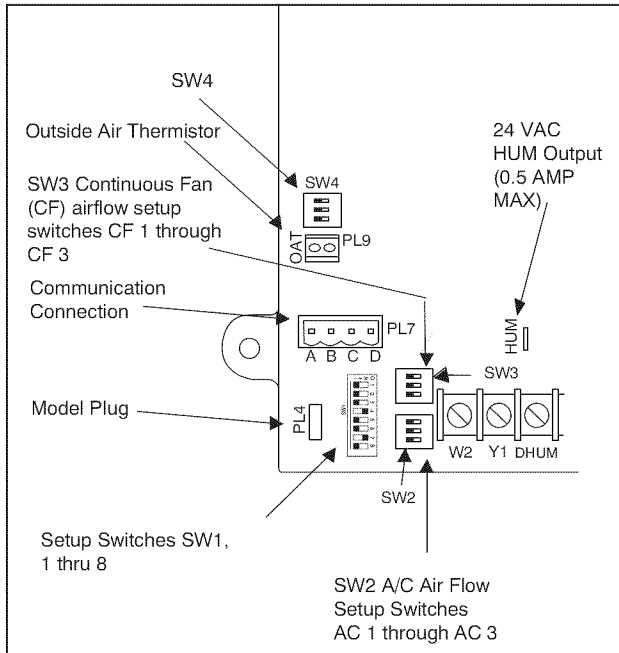

Fig. 27 - Furnace Control
5. Turn Setup Switch SW1-2 on furnace control ON (see Fig. 27).